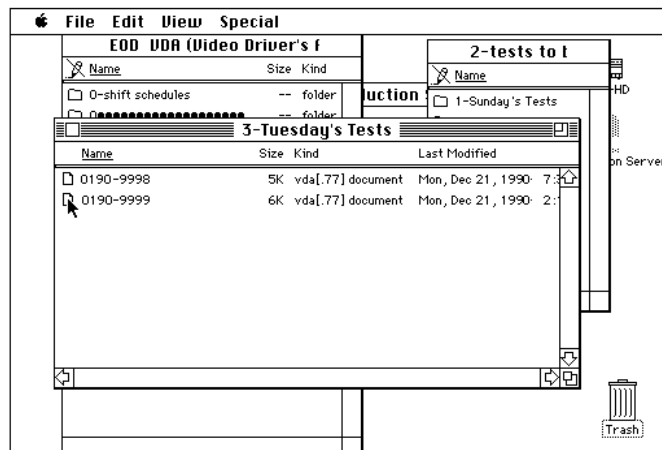

Figure 10
- 11.3 Position the mouse pointer in daily tests window on the appropriate test number and double click to open it. See Figure 10. If the test number cannot be located, notify the senior technician.